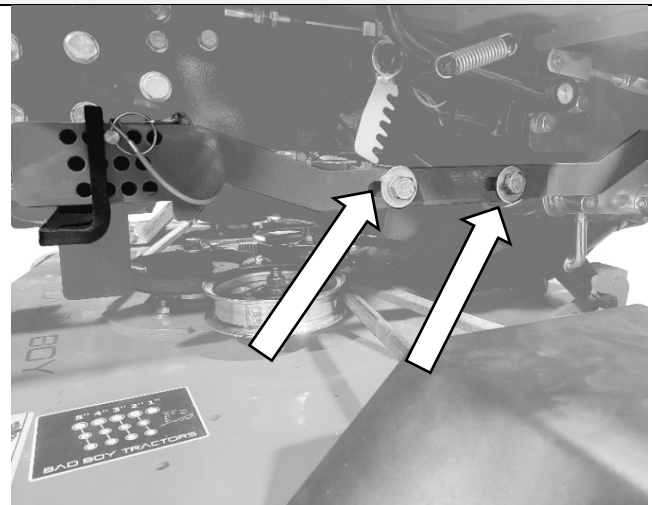

Figure 5D
7. With deck resting on 2x4s and rear lift arms lowered all the way down. Loosen the two $\frac{1}{2}$ " bolt on the deck stop arm and spread the two halves apart making it tight against the stop pin set in the $3\frac{3}{4}$ " pin hole as shown (Figure 5D). Tighten $\frac{1}{2}$ " bolts. Torque to 65 ft-lb.